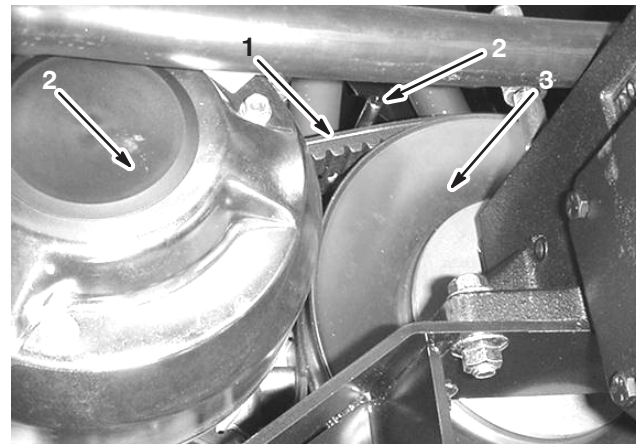

Figure 53
1. Loosen the 2 belt guides near the secondary clutch (Fig. 53).
2. Rotate and route the belt over the secondary clutch (Fig. 53).
3. Remove the belt from the primary clutch (Fig. 53).
4. Place the new belt over the primary clutch (Fig. 53).
5. Rotate and install it over the secondary clutch (Fig. 53).